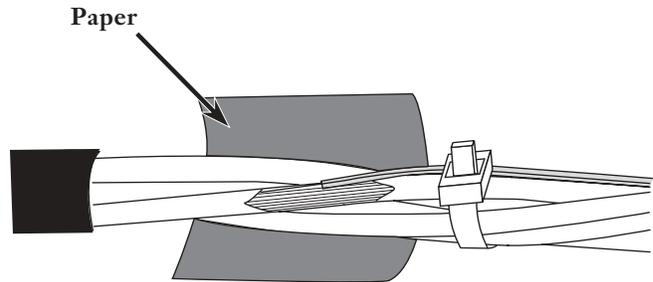

Figure 13
- Step 5** Position the paper over the buffer tube opening and the end of the fan-out tubing (Figure 13) and fold over to prevent the tape in the next step from sticking to the fibers.